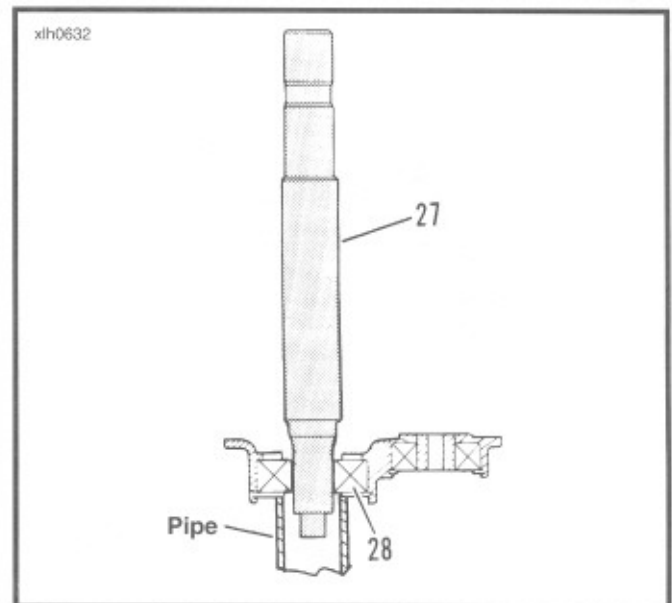

Figure 6-36.
1. Find a section of pipe that matches the inner race of bearing (28).
2. See Figure 6-36. Place the door assembly, outside downward, on a press with the inner race of bearing (28) resting on the section of pipe. Insert the splined end of the shaft through the bearing and hold in a vertical position. Press the shaft into the bearing until the bearing bottoms against the shaft shoulder.